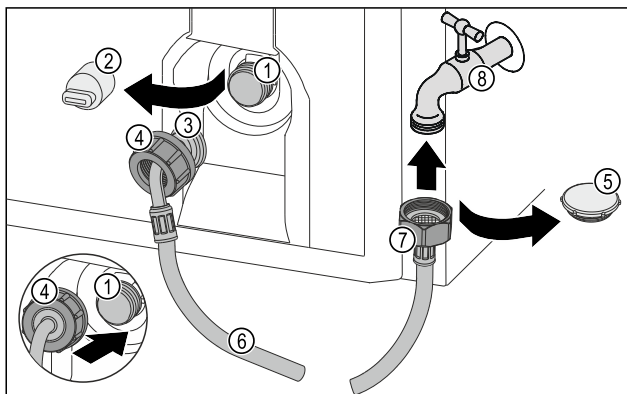

Fig. 26
- Remove the closure cap Fig. 26 (5).
- Place the straight end of the hose Fig. 26 (7) on the tap Fig. 26 (8).
- Tighten the nut at the straight end of the hose Fig. 26 (7) in a clockwise direction.